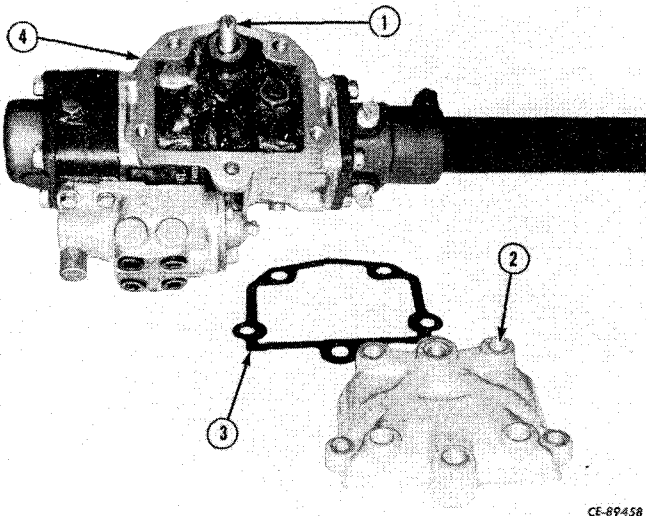

Figure 8-31
Install a new gasket (3, Fig. 8-31) and cover (2). Screw adjusting screw (1) to the left until cover is seated on housing (4).